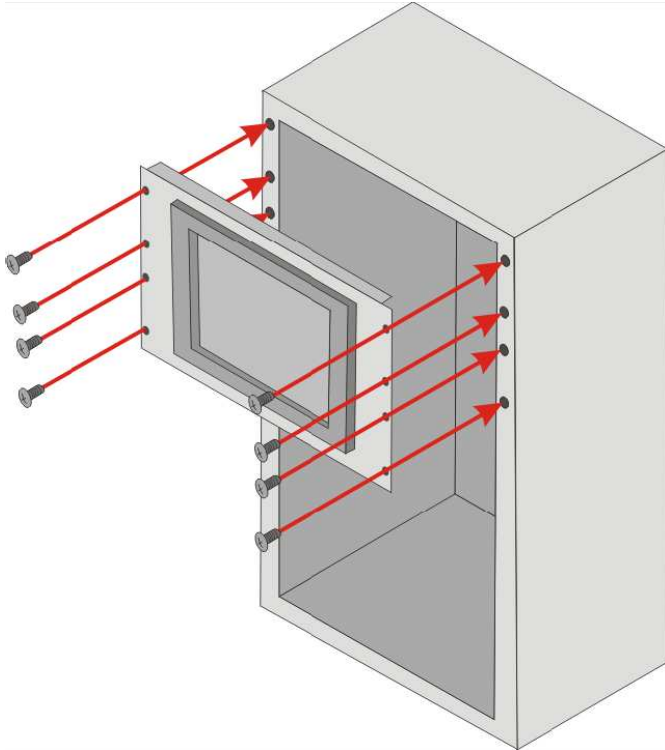

Figure 3-19: Install into a Rack/Cabinet
Step 5: Slide the IVC-15PC-P flat panel PC with the attached rack/cabinet bracket into a rack or cabinet. (See **Figure 3-19**)
Step 6: Once the IVC-15PC-P flat panel PC with the attached rack/cabinet bracket has been properly inserted into the rack or cabinet secure the front of the rack/cabinet bracket to the front of the rack or cabinet. (See **Figure 3-19**)